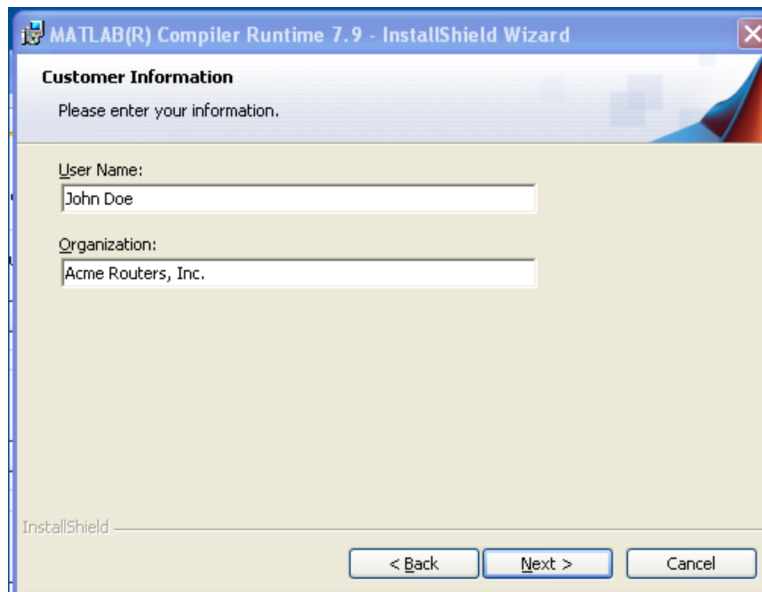

Figure 4. MCR GUI, Specifying User Information
2. Enter your customer information, as shown in Figure 4. Click *Next* to continue.